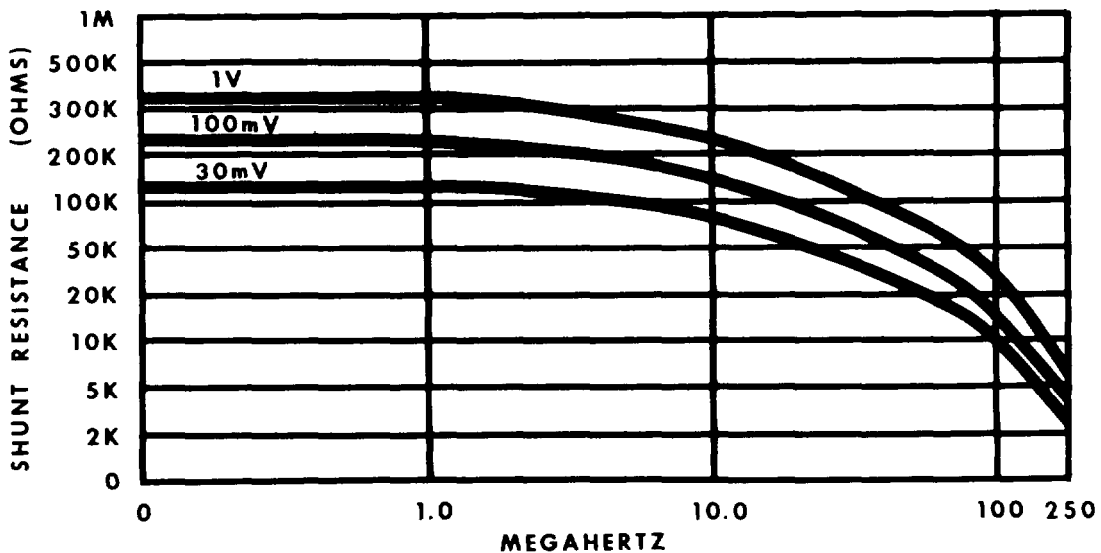

Figure 4-3. Probe input impedance vs. level and frequency.
1. The shunt resistance of the diodes (probe input impedance) varies inversely with both signal level and frequency. (see figure 4-3)